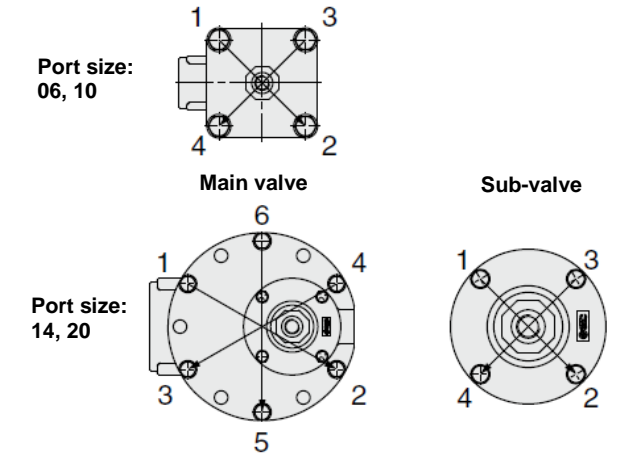

Fig.11
- Tighten the hexagon bolts diagonally (Fig.11) using the correct tightening torque values shown in the table below.